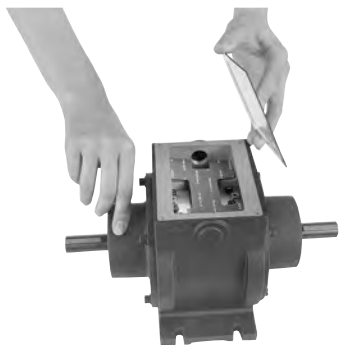

Figure 1
1. Remove the four screws and cover from the top of the EP-W to gain access to the electrical terminals on the clutch field and brake magnet. (Figure 1)